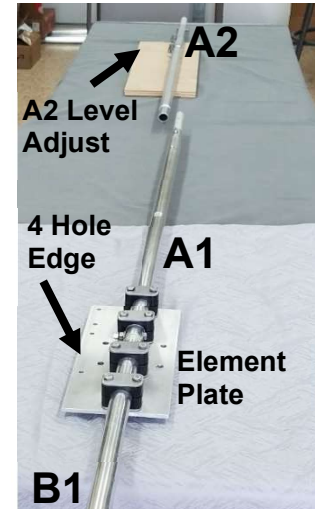

FIGURE 22
- (1) #8-32 lock nut (11702)
- (2) #8 washers (11703)
- **STEP 6.21** Locate sections A1 (joined to B1 on element plate) and section A2 (1302), as shown in **FIGs 22, 24 and 25**.
- **STEP 6.22** Place sections A1 [and B1 on element plate] on a smooth soft flat surface with section A2, as shown in **FIG. 22**. A 1/2" thick 3' long wood support elevates section A2 to the A1 level. Ideally, this long flat surface can be provided by two 4 → 5 ft long tables placed end-to-end -- each of same height. Any suitable long flat surface area may be used.
- **STEP 6.23** Rotate A2 initially to lay FLAT on the 1/2" support wood, with module support post facing same side as the 4 holes on long edge of element plate. See **FIGs 22 and 23**.